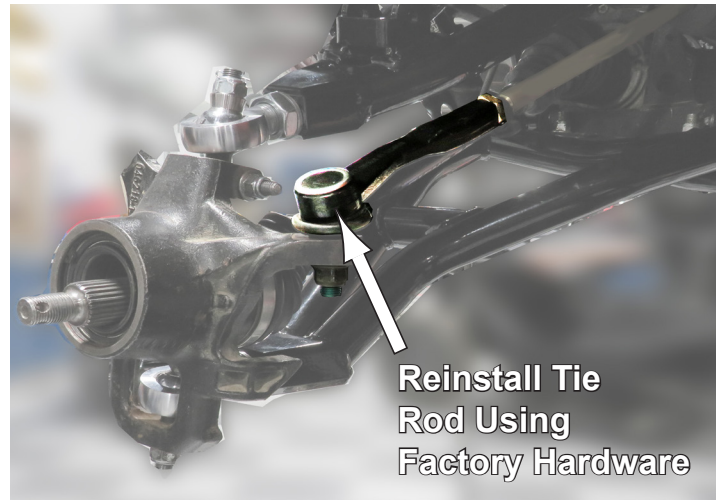

Fig.12
10. Next, reinstall the Tie Rod End as shown in **Fig.12** and secure.